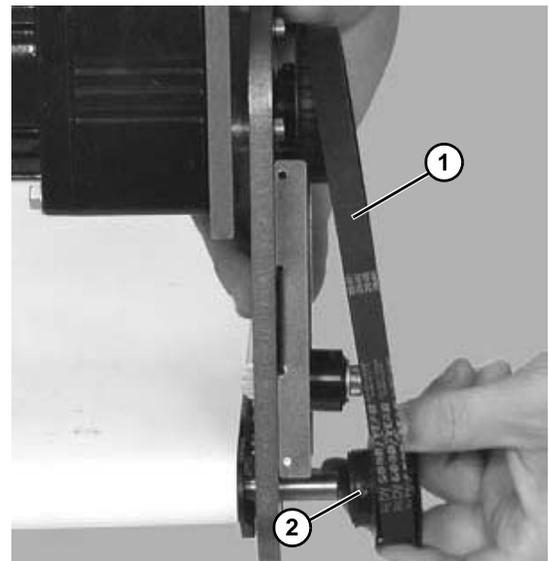

Figure 18
3. Remove timing belt (**Figure 18, item 1**).
If timing belt does not slide over pulley flange, loosen two driven pulley set screws (Figure 18, item 2) and remove pulley with belt ((Figure 18, item 1)). For re-installation, see steps 6 and 7 on page 10.